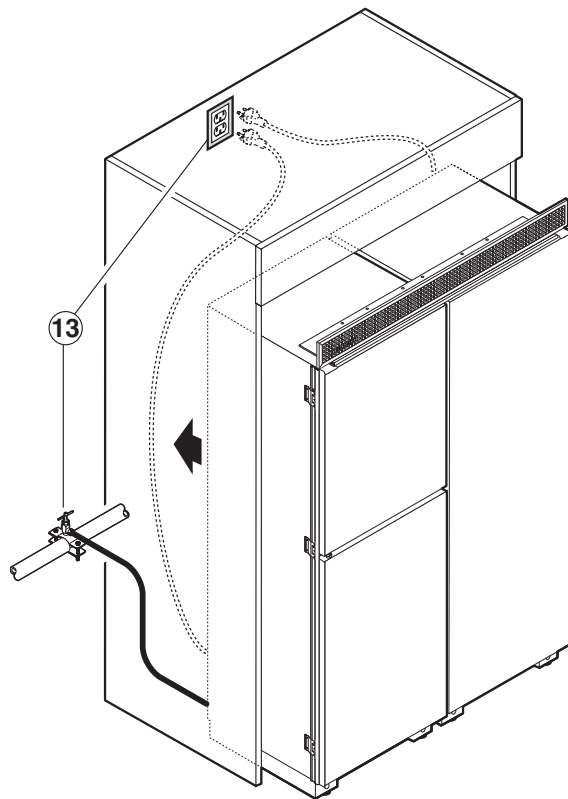

Figure 30
13. **Figure 30, 31: Connect the appliances:**
- to the water supply if the appliance is equipped with an IceMaker. See "IceMaker, Water Connection," **Figure 30**.